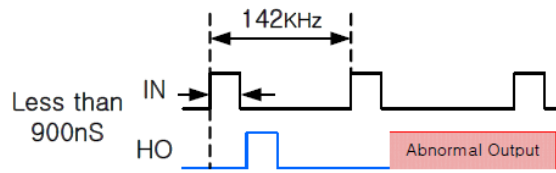

Figure 5. Abnormal Output Waveform with Pulse Width
6. When V_{DT} = 1.2 V. Refer to Figures 5, 6, 7 and 8.